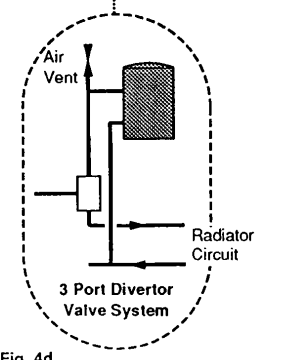

Fig. 4d
c) A system using a 3 port diverter valve (Fig. 4d) does not normally require a bypass therefore this system is recommended. The exception to this is where thermostatic radiator valves are used and then a bypass is required.